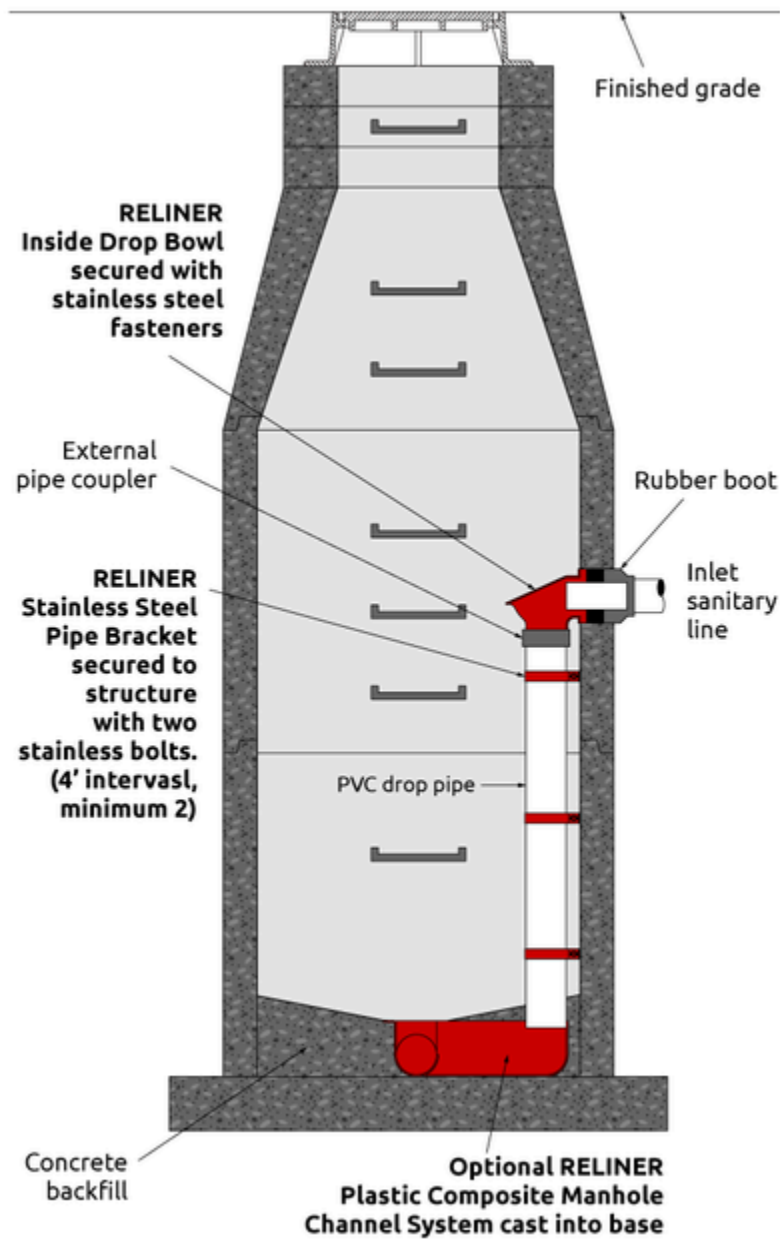

Figure 7 Manhole components
- Figure 7 Manhole components (<https://reliner.com/>) © Reliner (<https://reliner.com/>), used with permission.